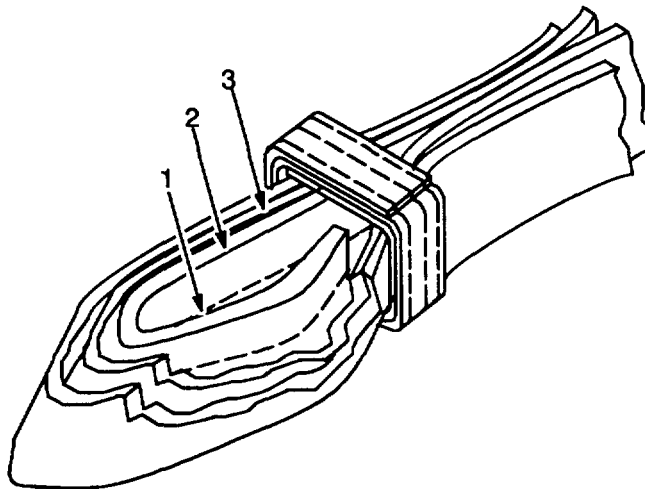
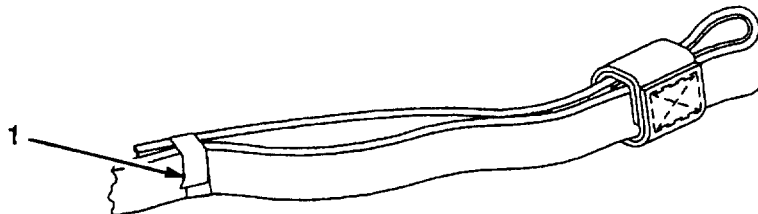

Figure 2-6. Buffer Position.
Figure 2-8. Fixed Keeper Removal.
- a. Cut the stitching (1, Figure 2-6) securing the buffer (2) to inside loop (3) and remove buffer (2).
- g. Fold buffer in half and insert into loop (3, Figure 2-6). Offset buffer ends by 1-inch (2.5-cm).
- h. Using VHD or HD sewing machine and 8 to 11 stitches per inch (3 to 4 stitches per cm), stitch buffer (2) to inside loop (3) with size FF thread (1) longitudinally along the center line. Stitch 1-inch (2 5-cm) beyond buffer with no back-stitch.
- a. Remove unserviceable fixed keeper by peeling off the tape (1, Figure 2-8), using care not to damage the webbing.